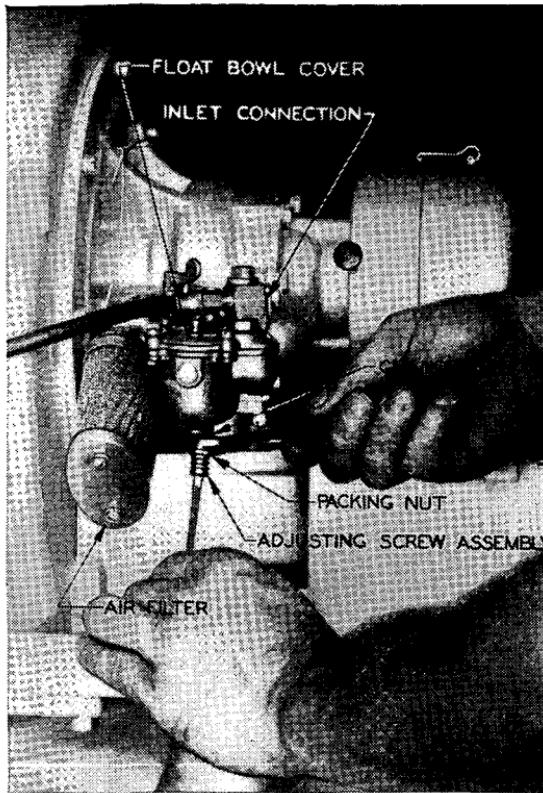

FIGURE 7.—Carburetor adjustment.
c. *Carburetor* (fig. 7).—Adjustment of the carburetor will be made by ordnance personnel only.
(1) Keep the strainer in the fuel inlet connection on top of the carburetor bowl free from sediment. When this strainer is being inspected, open the fuel line shut-off cock beneath the fuel tank to make certain there is a free flow of fuel to the carburetor.
(2) If fuel does not flow freely, remove the fuel filter sediment bowl beneath the fuel tank and clean the strainer in the top of the bowl.
(3) The carburetor is furnished with a concealed adjusting screw which is properly set at the factory and seldom if ever requires adjustment. In case of carburetor trouble, before changing this adjusting screw setting, make sure that fuel flows freely to the carburetor by inspecting both strainers as explained in (1) and (2) above.
(4) Where adjustment of the carburetor is found necessary the